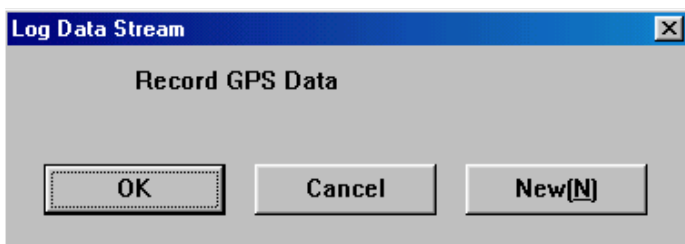
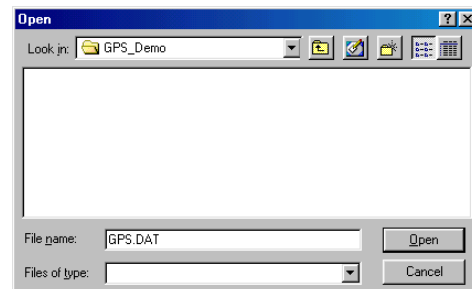

Figure 5
Figure 6
To select a different file name choose NEW(N) otherwise choose OK (Figure 5) to record to a previously used file. GPSView will not write over the previous file but will instead concatenate data at the end of the file. If NEW(N) is selected a dialog box opens (Figure 6) so that a new file name can be specified. All data is logged in the format specified in the **Format Menu**. Details of the Sony binary data format can be found in the CXD2930R or CXD2931R data sheets.